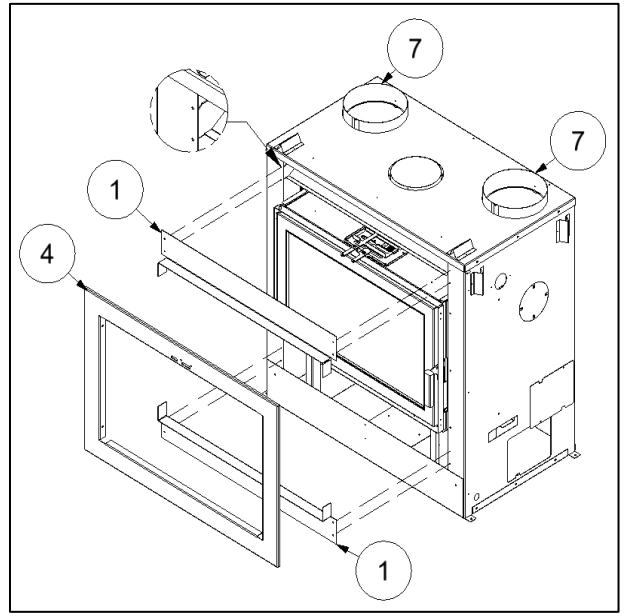

Figure 3-14: Top and Bottom Front Cover Installation for Clean Face Surround
2. Align the bottom Clean Face front cover (Item 1) and fasten it in place (Figure 3-14).
3. Align the top Clean Face front cover (Item 1) and fasten it in place (Figure 3-14).